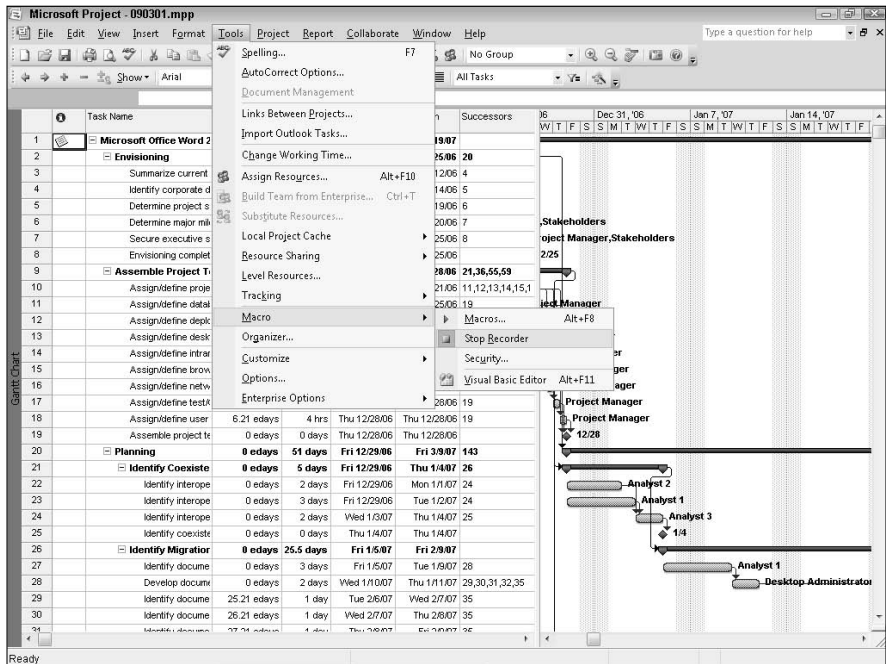

Figure 3-2:
7. Choose Tools → Macro → Stop Recorder (see Figure 3-2).